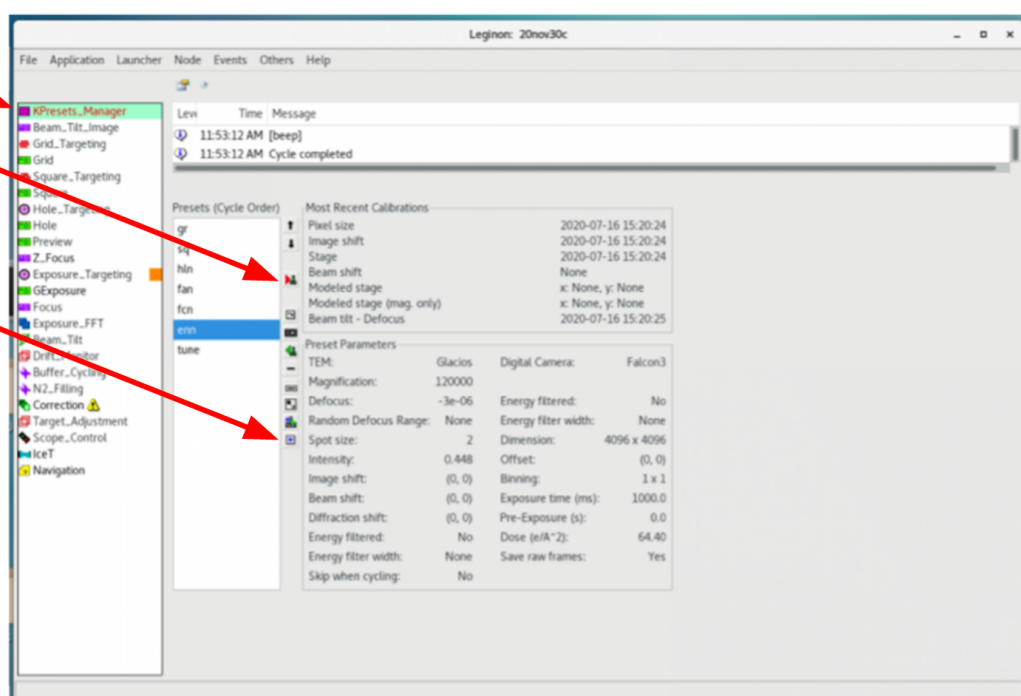

Figure 2. Leginon interface with Presets Manager node, “import presets” and “send to scope” buttons highlighted.
- 4.1.4. Upload presets (see Figure 2)